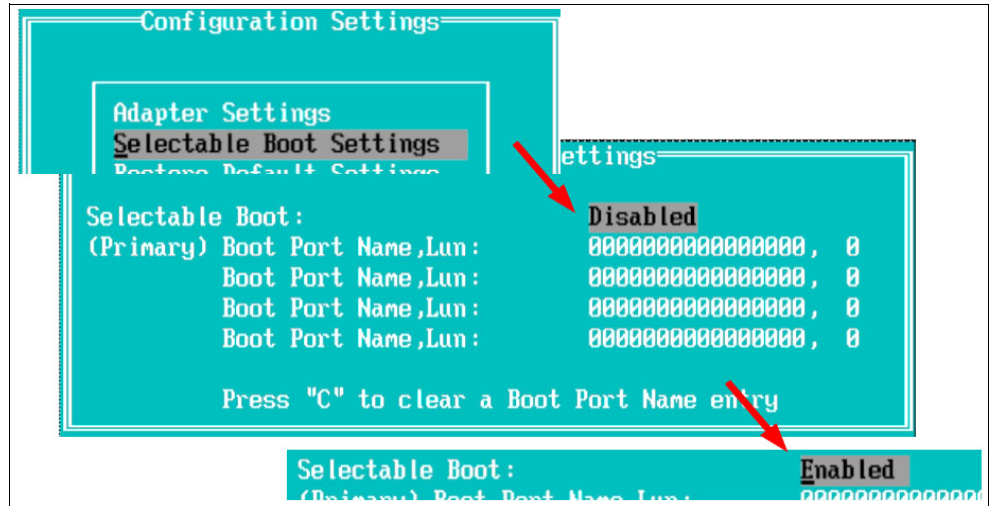

Figure 2-4 Enabling the selectable boot
- a. Change Selectable Boot to **Enabled** and press Enter, as shown in the middle and lower panels of Figure 2-4.